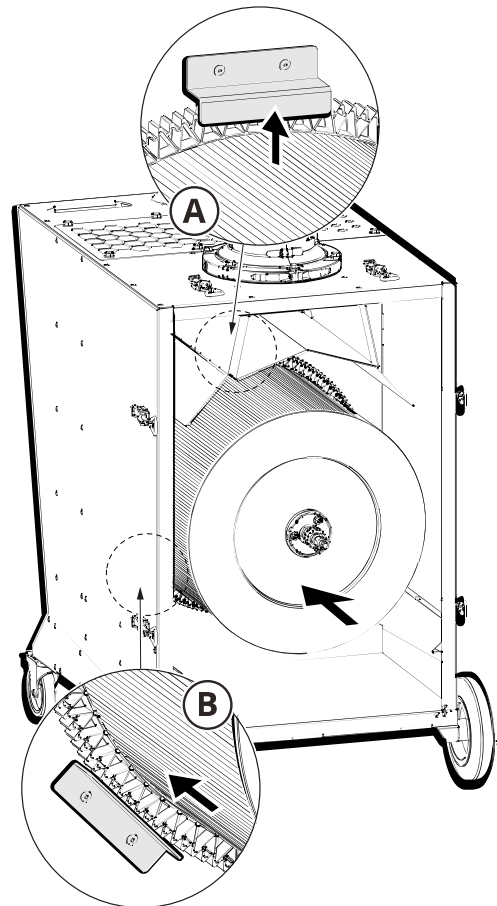

Fig. 31
2. Gently insert the new filter cartridge (**Fig. 31**).
1. Gently insert the new filter cartridge (**Fig. 31**).